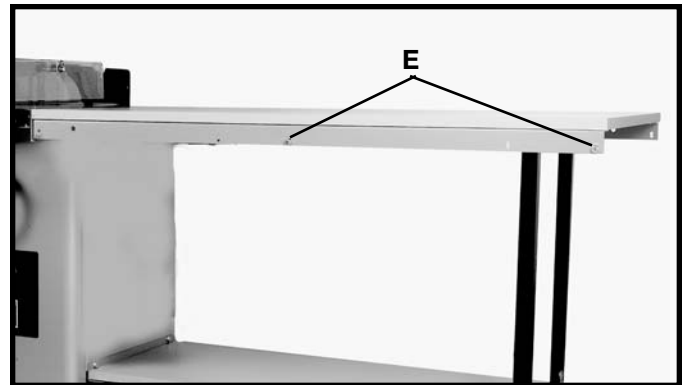

Fig. 54
4. Insert two 1/4-20x3/4" hex head bolts (E) Fig. 54 into the front support of the extension table and place flat washer and nut onto bolt from underneath the extension table. Screw bolt into nut two complete turns, leaving bolt head extended approximately 1/4" from the extension table.